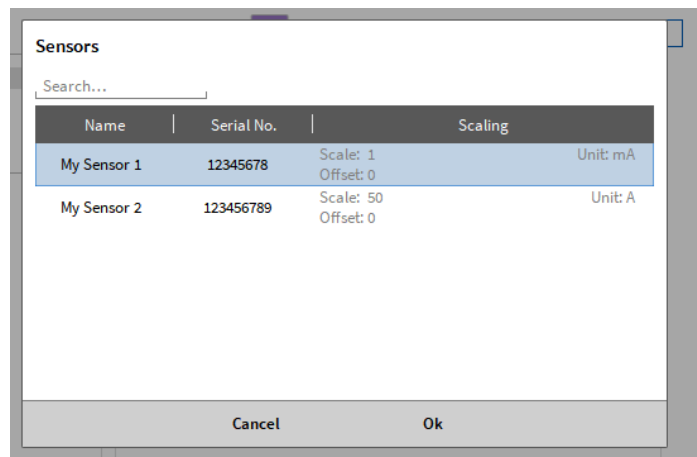

Figure 4-42: Popup window to apply a sensor for a channel in the channel settings
- A popup window will appear with a list of all defined sensors seen in Figure 4-42.